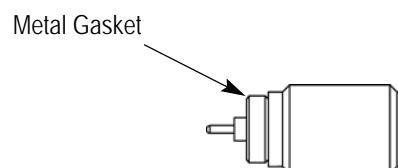

Figure 4
3. Install the metal gasket onto the jack. See Figure 4.